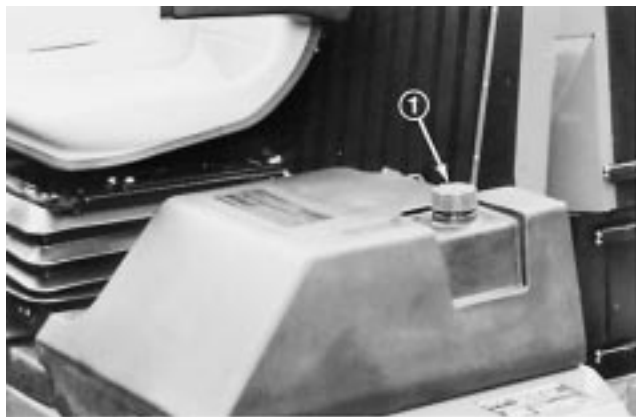

Figure 7
1. Remove fuel tank cap (Fig. 7).